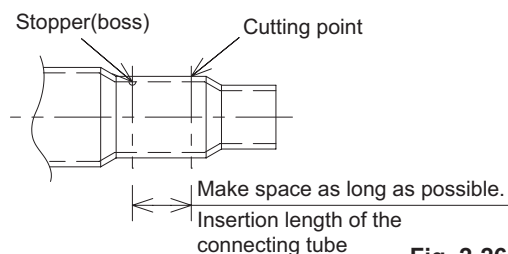

Fig. 2-268
- Cut off as far away from stopper as possible. (Fig. 2-268)